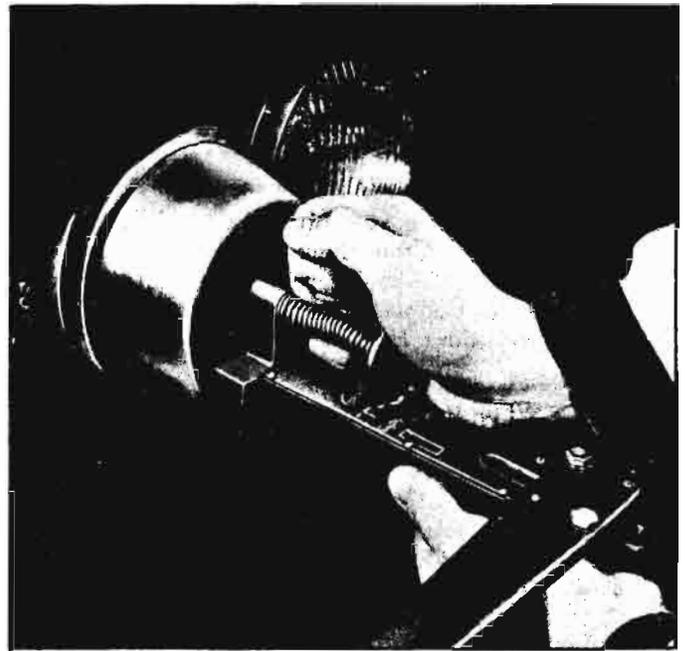

Fig. 8-97—Installing Aimer on Headlamp Unit
- Remove headlamp doors and install aimers on each headlamp (fig. 8-97) making sure aiming lugs engage smooth inner ring of the aimer. To install aimer, press firmly on the knob extending out from the center of the aimer base. This forces